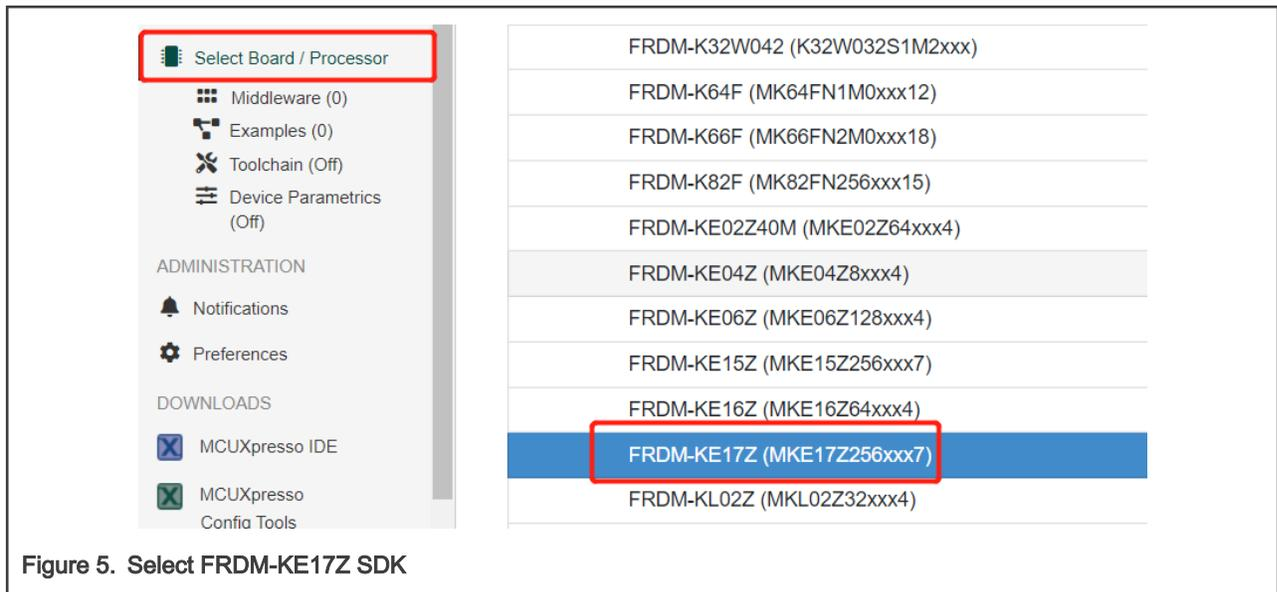

Figure 5. Select FRDM-KE17Z SDK
1. Go to MCUXpresso SDK Dashboard, click **Select Board**, search **KE17Z**, and select **FRDM-KE17Z**, as shown in Figure 5.